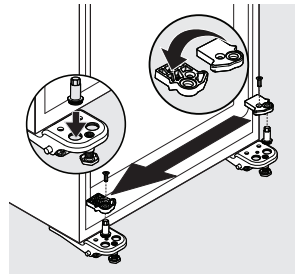

Figure 5
12. Install the bottom hinge pin in the left-hand hole of the left-hand lower hinge (see Figure 5).
13. Install the door stopper and screw it on top of the hinge pin (see Figure 5).